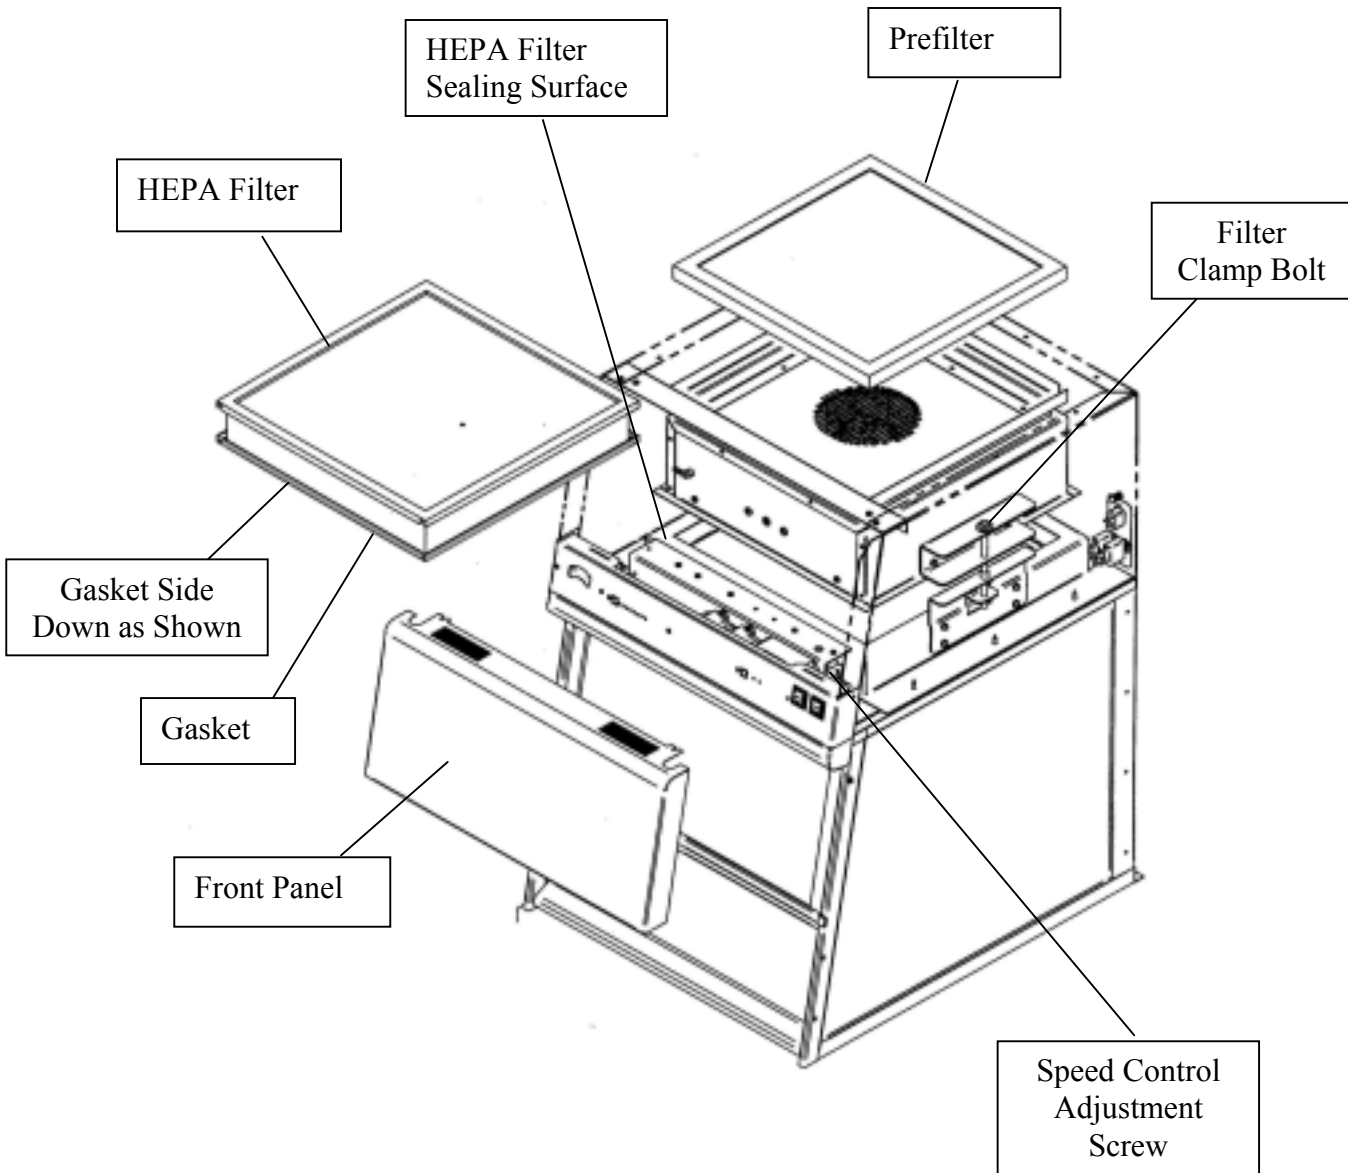

Figure 6-1
NOTE: Only a qualified certifier should service the HEPA filter. After the HEPA filter is replaced, the enclosure **MUST** be certified. See Figure 6-1.
3. Using a 9/16" deep socket, loosen the filter clamp bolts located on top. Refer to Figure 6-1.
After installing the new HEPA filter, the HEPA filter should be leak checked. This test is performed to determine the integrity of the HEPA filter, the filter housing, and the filter seal. Leak testing must be done by a qualified technician with calibrated equipment. Remove the upper perforated diffuser located inside the enclosure by using a Phillips screwdriver to unfasten the screws. (See Figure 6-1). The filter passes the leak test at .01% or better. Reference Leak Testing and Photometer scanning from the Institute of Environmental Services (IES-RP-CC001.3)
1. Remove the front panel by loosening the (2) Phillips screws on top that secure the front panel.
2. The speed control is located on the electrical subassembly located behind the switched control panel and below the front panel. See Figure 6-1.
1. Remove the bracket that the speed control is attached to. See Figures 6-1, and 6-2.